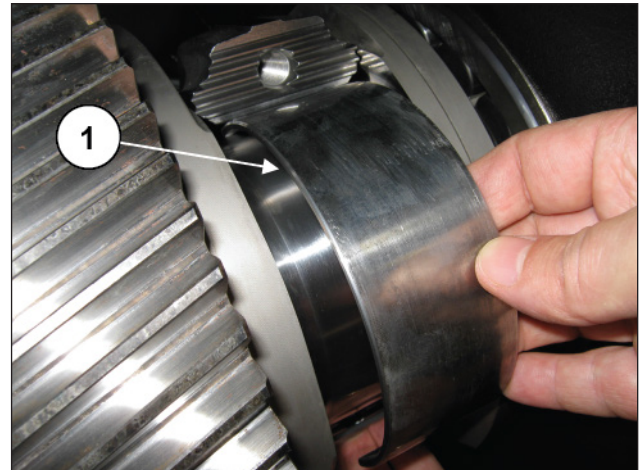

Fig. 32
Remove the three upper half-bearings of the half-conrods (pos. ①, Fig. 32).